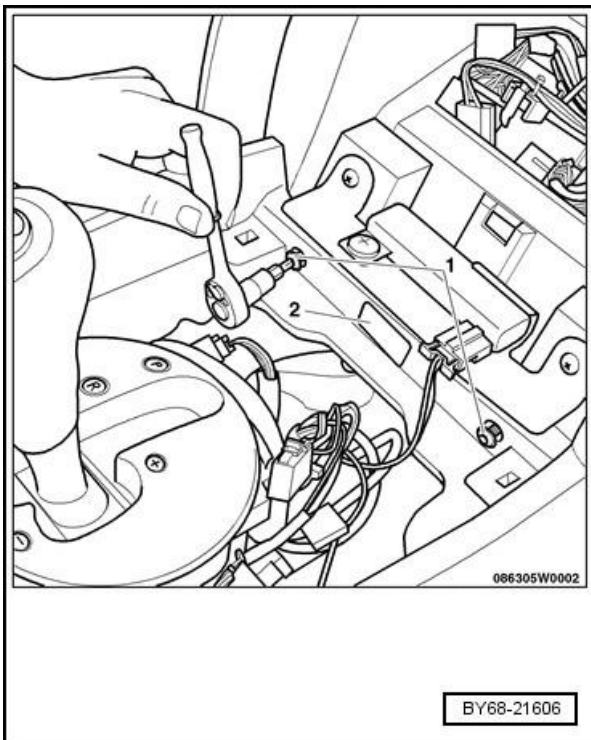

Figure 3
8. Remove the two retaining screws (1) from the front of the console frame (see Figure 3)
9. Pull the console rearwards to disengage the two side buttons and the centre pin (2) then lift upwards over the gear selector and remove from the car (see Figure 3)